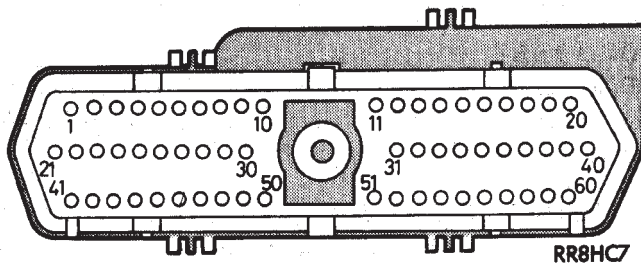

Fig. 8 PCM 60-Way Connector - Terminal End
(2) Connect negative lead of voltmeter to a good body ground near the module.
(3) For the following tests, the ignition switch must be in the ON position. See Fig. 8 for controller terminal locations. Touch the positive lead of the voltmeter to the terminal in cavity number 33. With the speed control switch in the OFF position, the voltmeter should read zero volts. With the speed control switch in the ON position, the voltmeter should read battery voltage. If not, repair the main harness as necessary.
(4) Touch the positive lead of the voltmeter to the terminal in cavity number 53. As in step (3), the voltmeter should read zero volts with the switch in the OFF position, and battery voltage with the switch in the ON position.
(5) Touch the positive lead of the voltmeter to the terminal in cavity number 48. With the speed control switch in the OFF position, the voltmeter should